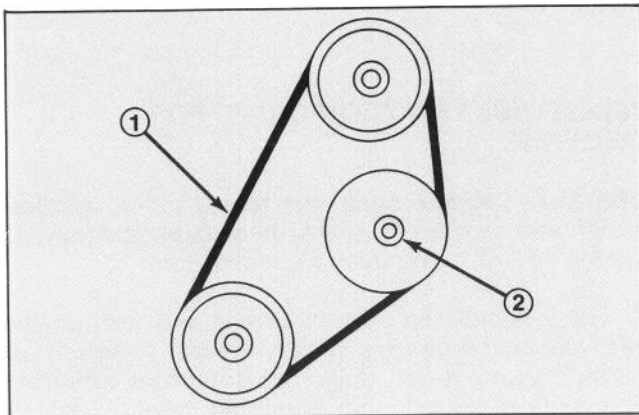

Figure 49
3. Belt should deflect 1/4 in. (6 mm) midway between the pulleys with 5 lbf (22 n) (Fig. 49). If deflection is incorrect, proceed to step 4. If correct, proceed to step 5.
4. Loosen locknut securing idler pulley (Fig. 49). Push idler pulley against belt until proper deflection is achieved and tighten idler pulley locknut (Fig. 49).
2. Loosen locknut securing idler pulley, slide pulley away from belt and remove belt from top and bottom pulleys (Fig. 49).
3. Install new belt and adjust for proper tension. Push idler pulley against belt until belt deflects 1/4 inch. (6 mm) with 5 lbf (22 N) midway between top and bottom pulleys (Fig. 49). Tighten idler pulley locknut to secure adjustment (Fig. 49).